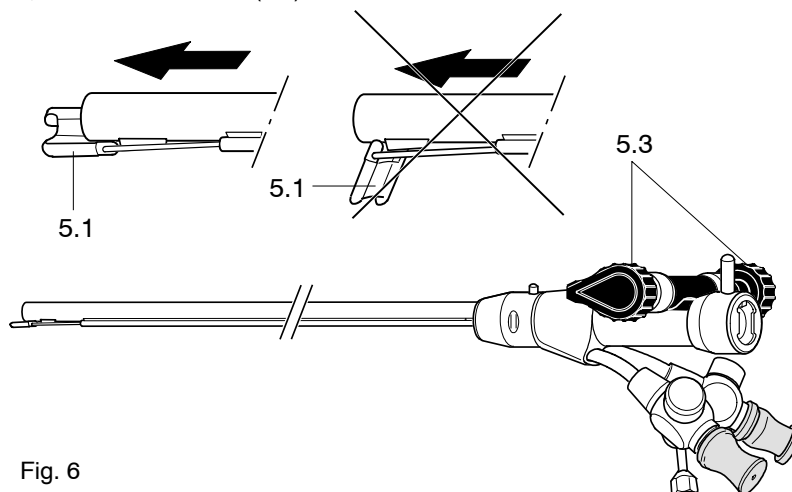

Fig. 6
6.1.4 Inserting attachment or insert in sheath (Fig. 6)